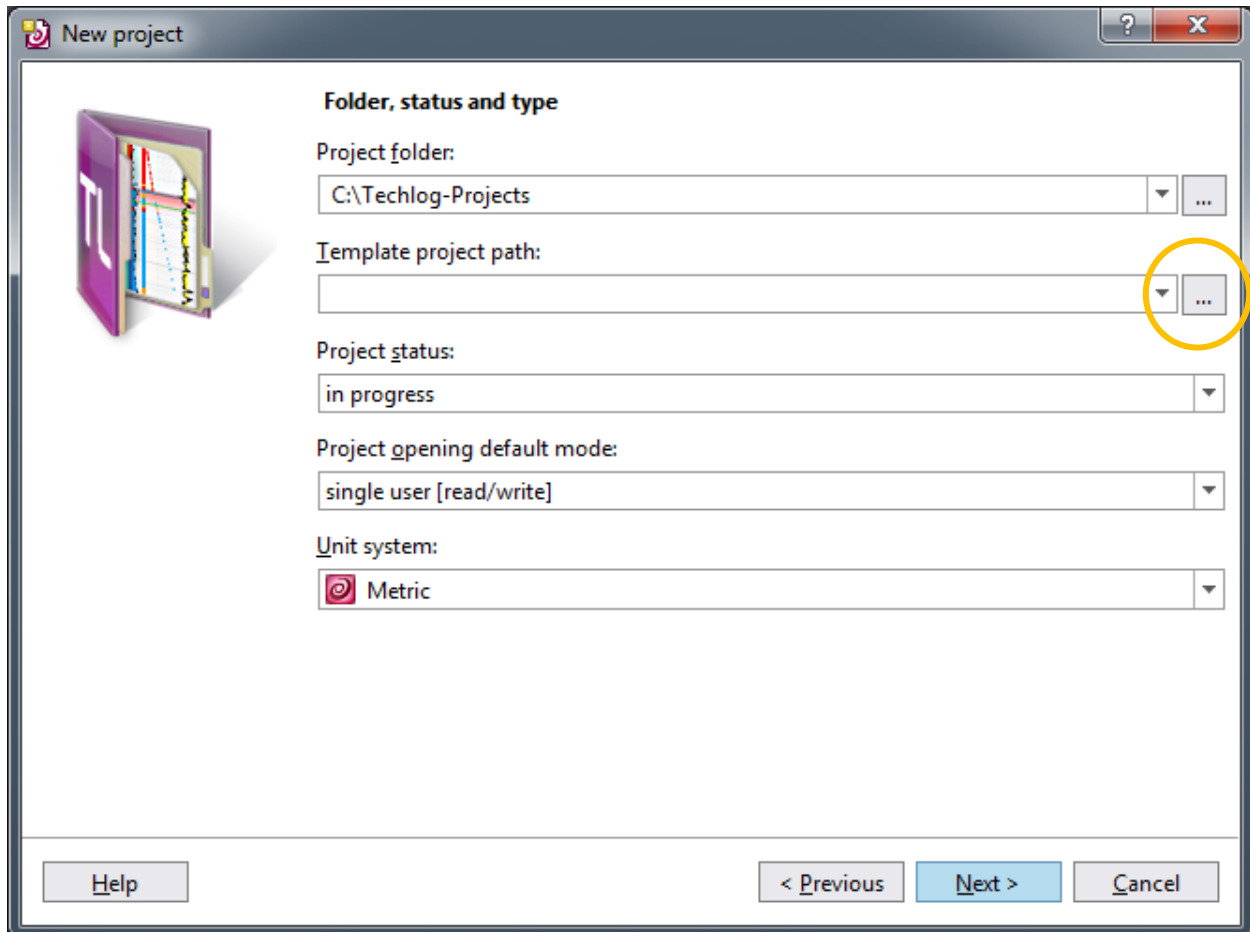

Figure 4: Second of four windows for creating a new project, where a template project is selected.
4. In the second window that appears, select a template project by clicking on the browse button (Fig. 4).